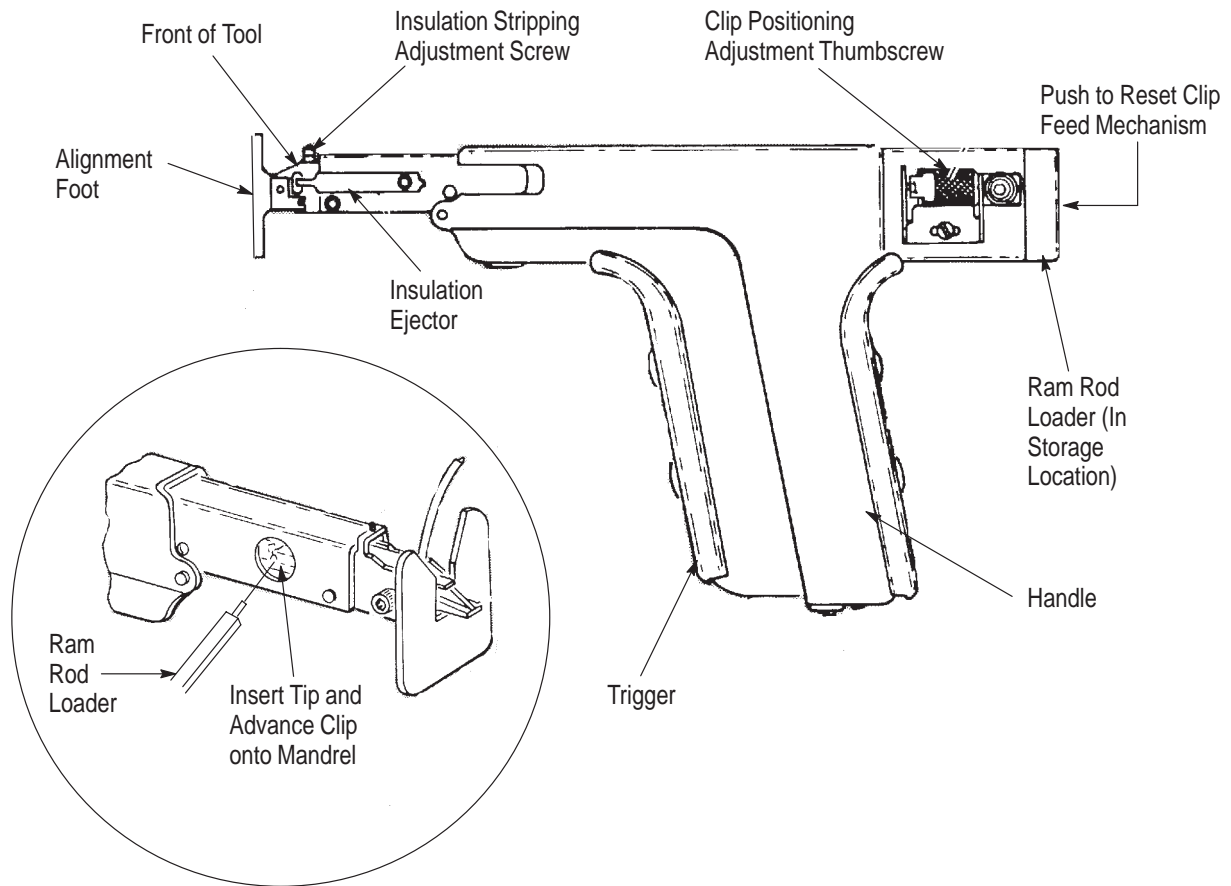

Figure 6
5. Return the ram rod loader to the ram rod storage section of the tool. See Figure 6.
The clip positioning adjustment thumbscrew (Figure 6) controls the position of the clip when it is applied to the post. When applying three clips to a post, set the positioning adjustment thumbscrew to “3.” This positions the first clip at the bottom of the post. Then set the positioning adjustment thumbscrew to “2” in order to place the second clip in the middle of the post. Finally, set the positioning adjustment to “1” to position the third clip on the top of the post. When applying two clips to a post, begin with the “2” setting, and when applying one clip to a post, use the “1” setting. Use the following procedure to make an adjustment.
The AMP TERMI-POINT tool has an adjustment screw (shown in Figure 6) to control the stripping action provided when the push rod forces the clip over the mandrel. These tools are set at the factory and should not require adjustment. However, if the tool is not stripping the wire properly (i.e, nicked conductor strands or insulation not stripped from the wire), adjust the tool as follows: